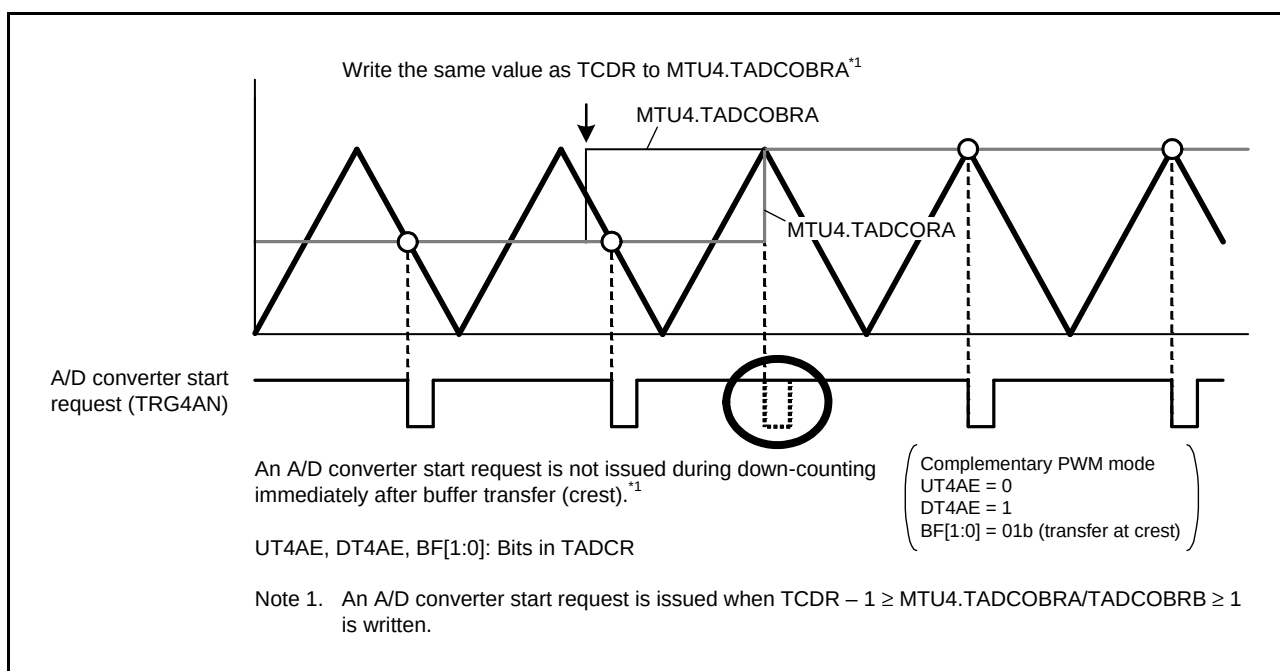

Figure 23.115 A/D Converter Start Request When the Same Value as TCDR is Written to MTU4.TADCOBRA
- When data is transferred from a buffer register at the crest of the MTU4.TCNT counter while the MTU4.TADCOBRA and MTU4.TADCOBRB registers are set to the same value as the TCDR register and the UT4AE and UT4BE bits in the MTU4.TADCR register are set to 1, no A/D converter start request is issued during down-counting immediately after transfer. Refer to Figure 23.115.